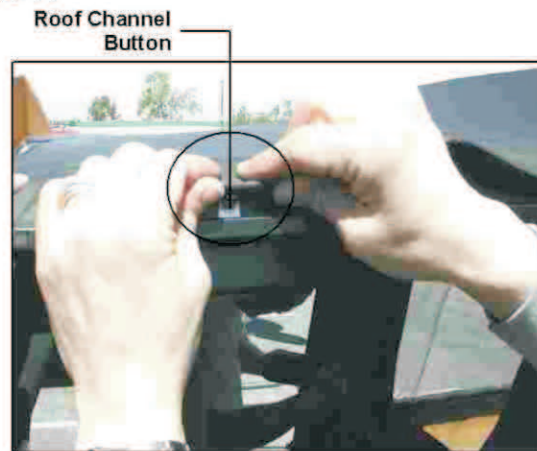

Figure 7
- Securely fasten the (5) roof channel snaps on both sides of the vehicle to the (5) Cab Tops snaps as shown in Figure 7.